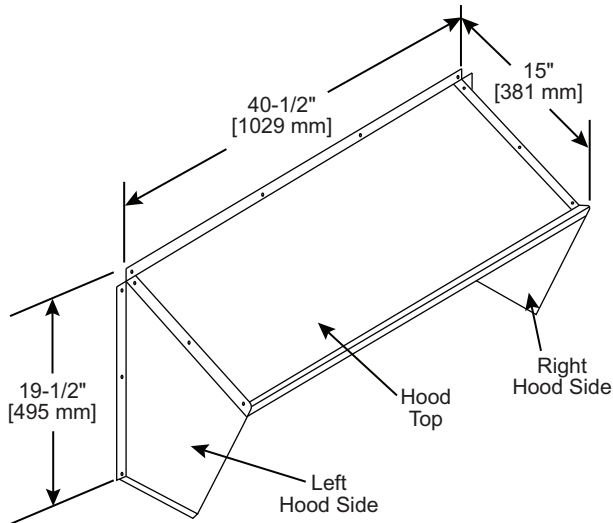

Fig. 21 — CRBARHOD001A00 Hood Sides and Top
5. Using the provided hardware, screw the CRBARHOD001A00 hood sides and top together (see Fig. 21).